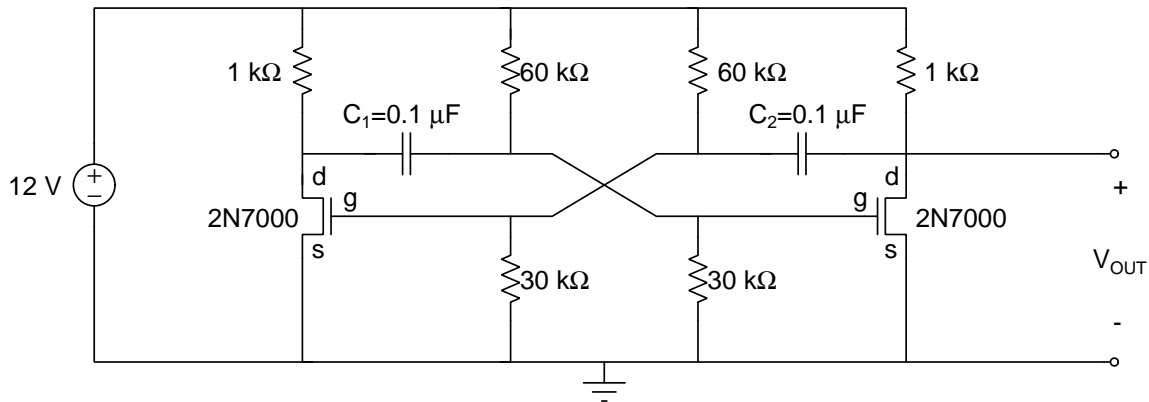
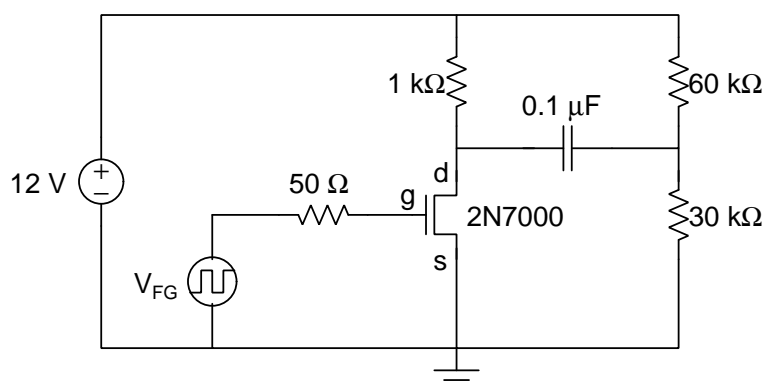

Figure 2: Astable multivibrator circuit of Figure 1 with 2N7000 transistors used as voltage-controlled switches.
Figure 3: Multivibrator half-circuit.
Simulate the operation of the astable multivibrator circuit using the 2N7000 NMOS transistors to implement the voltage-controlled switches, as shown in **Figure 2**. In NGspice, use the **2N7000_mod** symbol for the transistor model.
1. Build the multivibrator half-circuit shown in Figure 3.
2. Set the function generator (FG) to produce a triangular waveform with a voltage swing from 0 to 5 volts, and a frequency equal to that found in step 5 of the Pre-Lab. Use the scope to record the voltage at both the gate (G) and drain (D) of the 2N7000 transistor. By examining when these two voltage traces cross, determine the gate voltage that causes the transistor to switch between the on-state and the off-state. Expand the time scale on the scope to maximize the accuracy of the measurement. Try and measure this gate voltage to an accuracy of ± 50 mV. Find at least two 2N7000 transistors that have nearly the same turn-on/turn-off gate voltage. We will call this voltage V_{T0} .
3. Build the full astable multivibrator circuit shown in Figure 2. This circuit should oscillate when power is supplied.